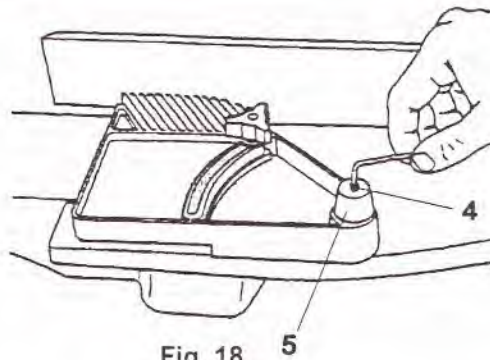

Fig. 18
- a. While holding the knob (5) so that it will not rotate, use a 1/8" Allen wrench to loosen the setscrew (4) located in the top of the knob (5) on the feather guard, as shown in Fig. 18.